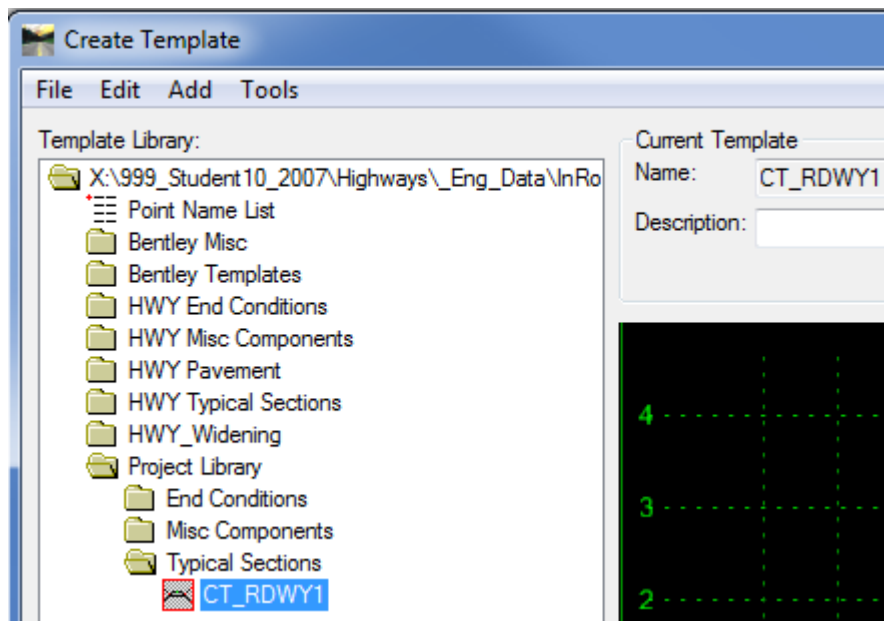

Figure 6-16 InRoads Create Template Dialog Box Renaming a Template
- C. **Double Click** on the **Project Library** Folder. **Right Click** on the **Typical Sections** Folder and select **New > Template**. The new template will be highlighted in blue, type in **CT_RDWY1** to rename the new template. (See Figure 6-16) You can give it a Description, i.e. Route 123 - 12 ft lanes.